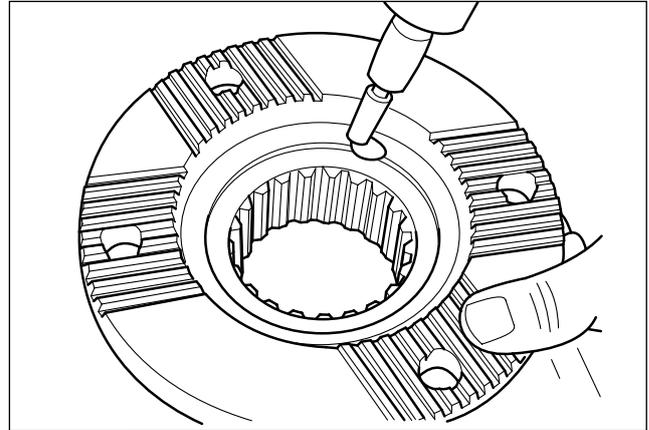

Fig. 4.27
7. If reused, remove any burrs found on the flange with the aid of a small ball nosed grinding wheel. (Fig. 4.27)